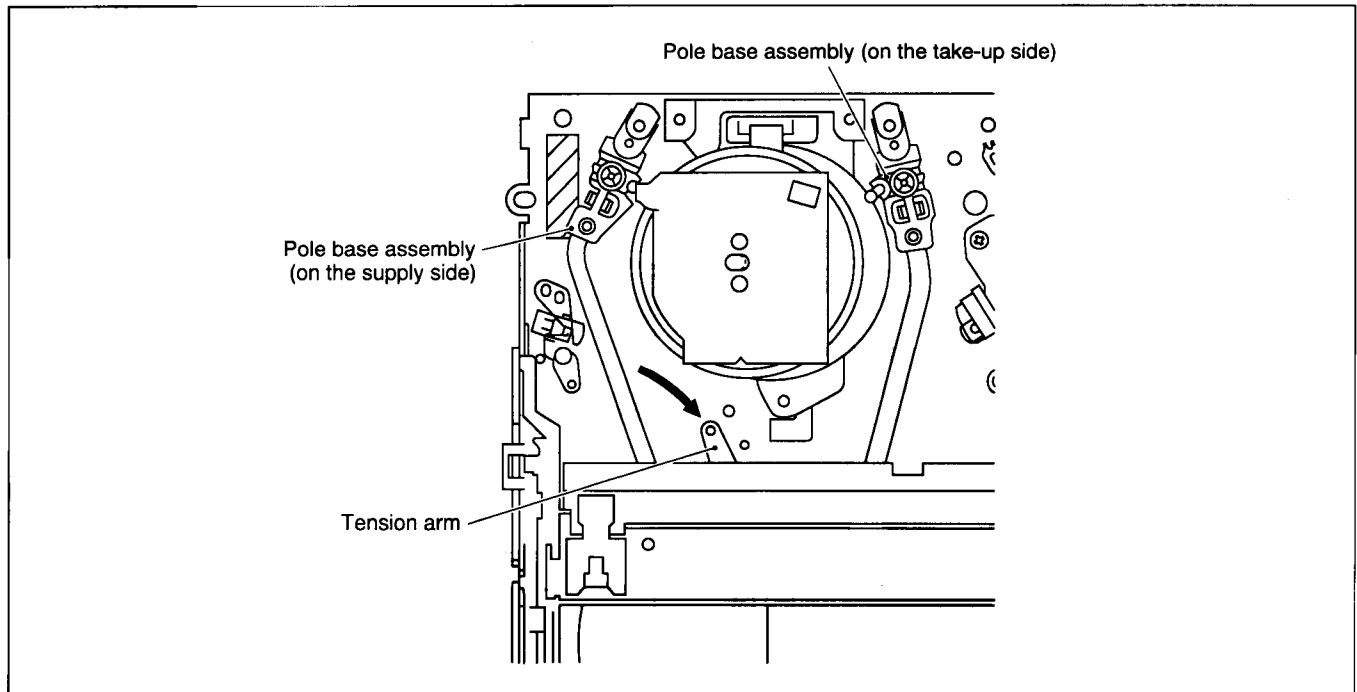

Fig. 2-1-3
- (1) Unplug the power cable and remove the top cover, bracket, front panel assembly, stay and Drum shield (See 1.3 DISASSEMBLY/ASSEMBLY METHOD).
- (2) While keeping the tension arm of the main deck assembly free from tension, pull the tape on the pole base assembly out of the guide roller (on the supply or take-up side) (See Fig.2-1-3).